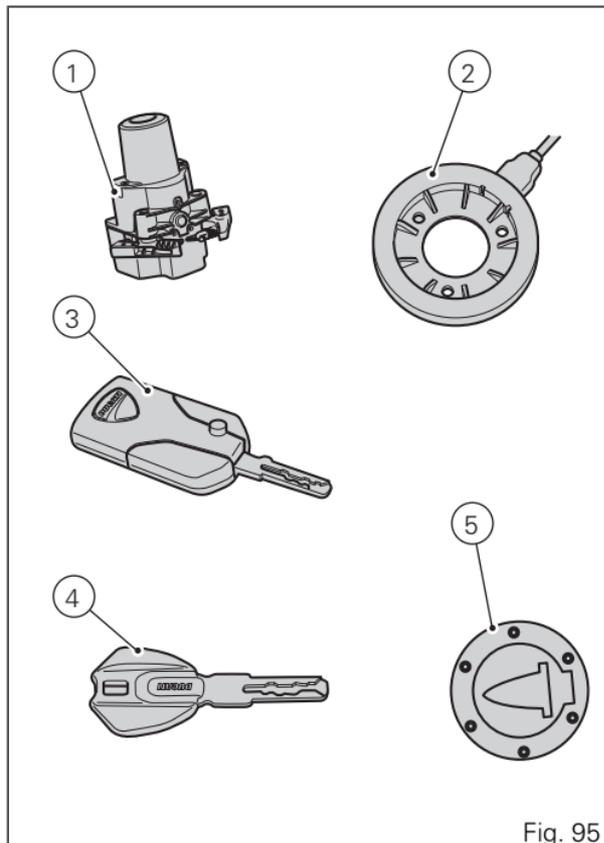

Fig. 95
A Key-On can be performed by pressing the red button (6) on the handlebar in the HANDS FREE ON/OFF position and in the presence of the active key (3, Fig. 95).
Key-Off can be performed by pressing the red button (6) on the handlebar in the HANDS FREE ON/OFF position. It can be done also without the key (3, Fig. 95) only if the motorcycle speed is equal to zero.
Key-On can be performed by pressing the button (7) on the Hands free lock (1, Fig. 95) and with the presence of the active key (3, Fig. 95).
Key-Off can be performed by pressing the button (7) on the Hands free lock (1, Fig. 95), also without the key (3, Fig. 95).
A Key-On can be performed by pressing the red button (6) on the handlebar in the HANDS FREE ON/OFF position and in the presence of the passive key ((4)Fig. 95).
Key-Off can be performed by pressing the red button (6) on the handlebar in the HANDS FREE ON/OFF position. It can be done also without the key ((4)Fig. 95) only if the motorcycle speed is equal to zero.
Key-On can be performed by pressing the button (7) on the Hands free lock and with the presence of the passive key ((4)Fig. 95).
Key-Off can be performed by pressing the button (7) on the Hands free lock ((1)Fig. 95)), also without the key ((4)Fig. 95)).
Key-On can be performed by pressing the button (7) on the hands free lock (1 Fig. 95) without the presence of the keys (3 Fig. 95) and (4 Fig. 95) and entering the pin code on the dashboard.